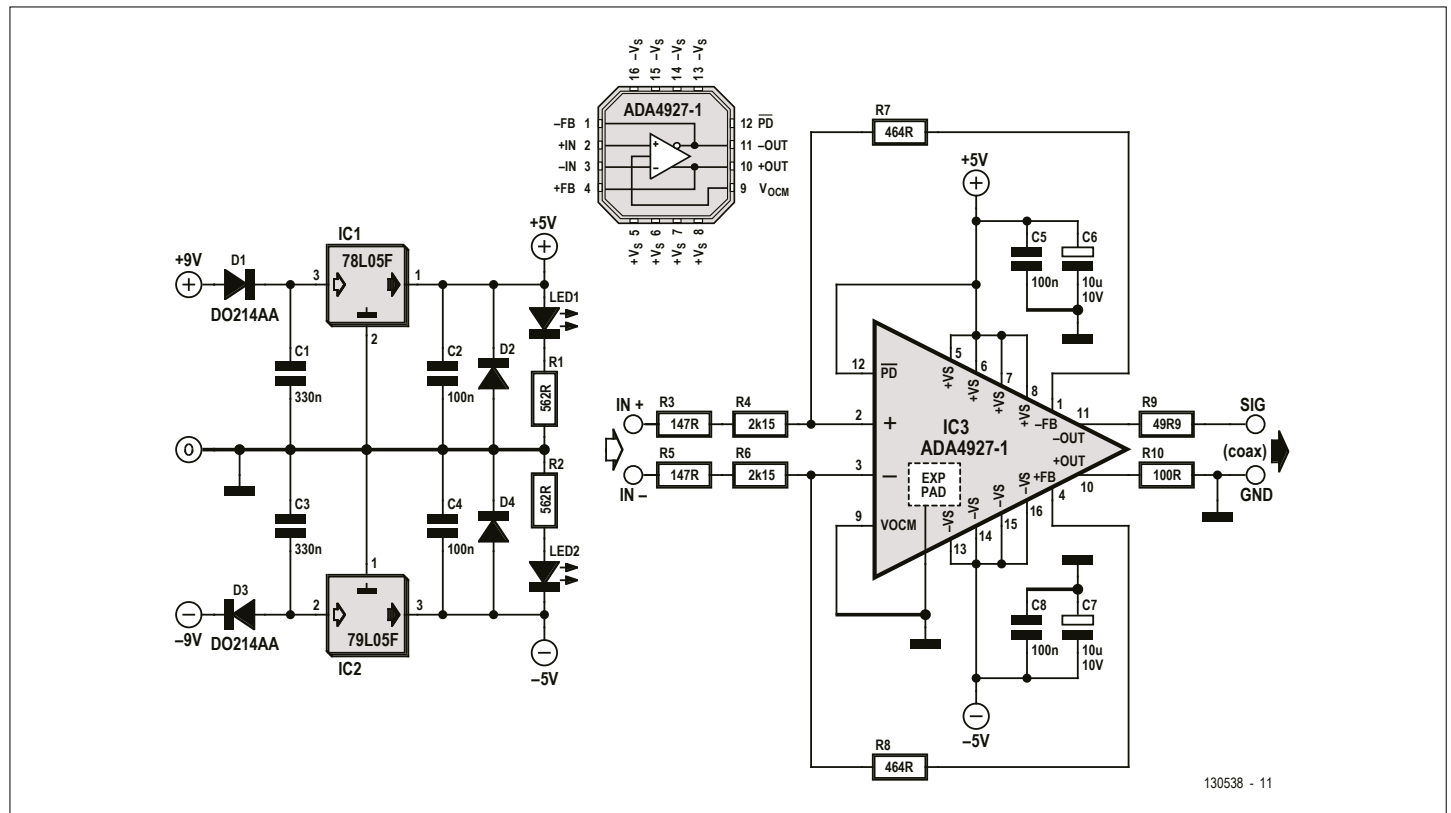

Figure 2. Schematic of a differential probe.
**Figure 2** shows the disarmingly simple schematic.